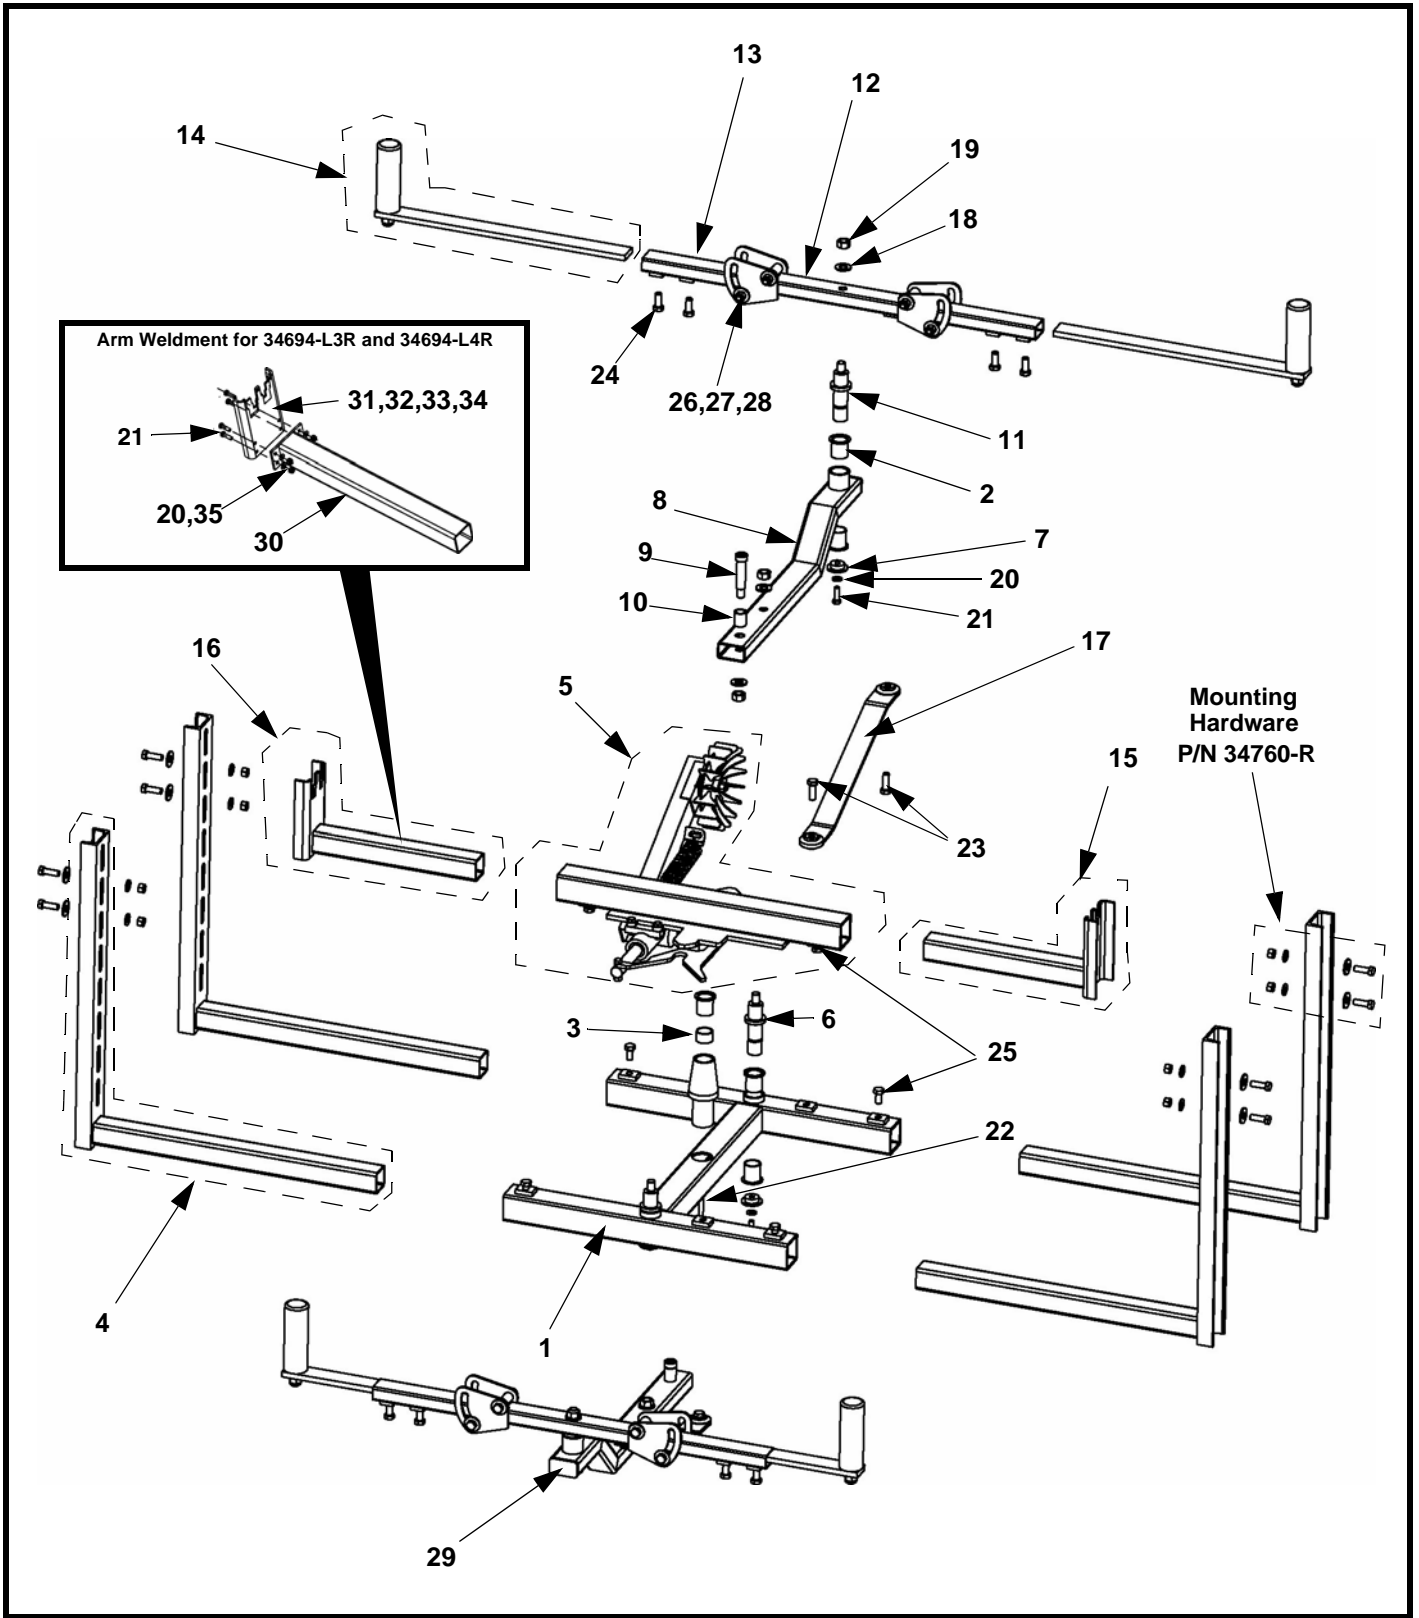

Figure 19. Martin® Tracker™ Reversing (Lower Unit), P/N 34694-LXR\* (Sheet 1 of 2)
**Lower Unit Assemblies:** See Figure 19.